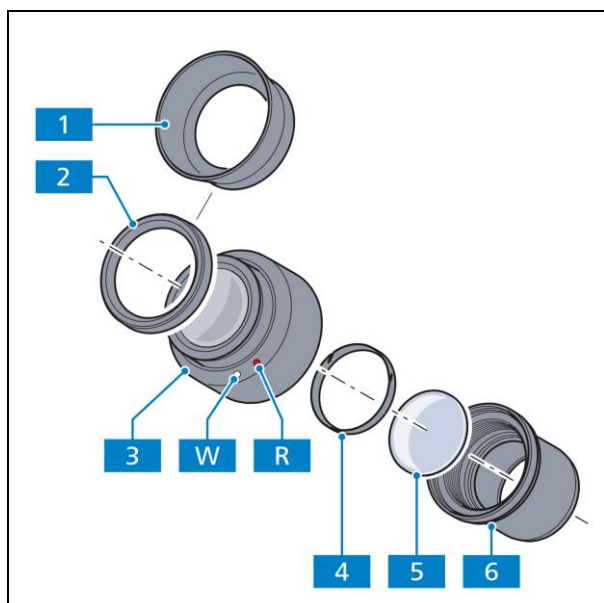

Fig. 3-5 Inserting the eyepiece reticle
Eyepiece reticles (Fig. 3-5/5) can be used with eyepieces (Fig. 3-5/3) marked with a red dot (Fig. 3-5/R).
- Unscrew mounting stop (Fig. 3-5/6) from the eyepiece (Fig. 3-5/3).
- Pull locking ring (Fig. 3-5/4) out.
- Insert eyepiece reticle (Fig. 3-5/5) into the mounting stop and fix it with the locking ring.
- Screw mounting stop (Fig. 3-5/6) into the eyepiece (Fig. 3-5/3).
Make sure that the side of the reticle (Fig. 3-5/5) with the line pattern on it is facing the mounting stop in the tube (Fig. 3-5/6) (the line pattern occurs mirror-inverted from the observer's point of view before the insertion). After insertion into the beam path of the microscope it is readable true to side.
The slight image shift caused by the additional path through glass is taken into account on the diopter scale by the fact that the zero point position is indicated not by the white dot (Fig. 3-5/W), but the red dot (Fig. 3-5/R).
- For this purpose, remove the eyeglass protection rings (Fig. 3-5/2) from the eyepieces and mount the eyecups (Fig. 3-5/1).